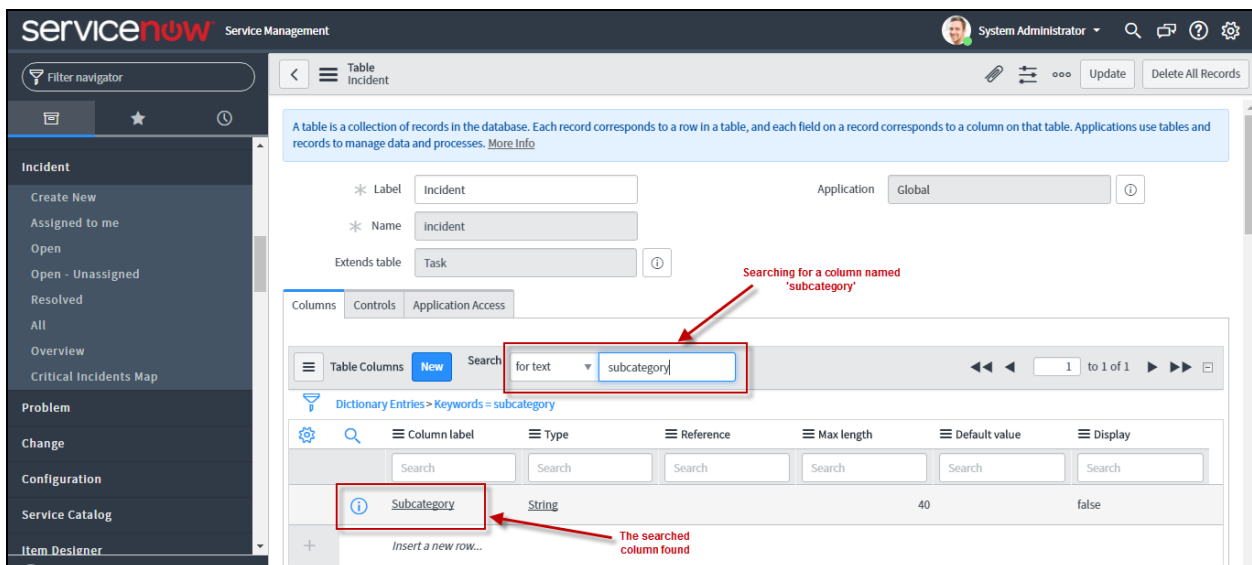

Figure 5.42: Clicking on the column 'contact'
- Figure 5.42 will then appear. Use the **Search** option indicated by Figure 5.42 to search for the column named 'subcategory'. Once it is found, click on it as indicated by Figure 5.42.